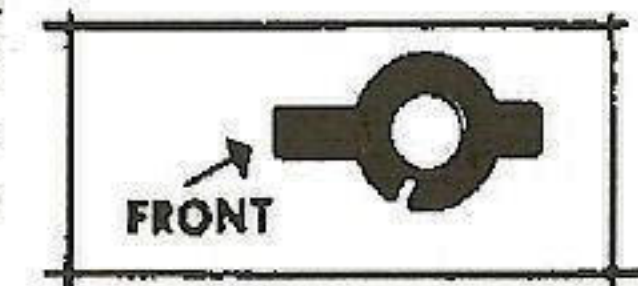

FIG. 3
6. Take apart component pieces of snuffer, i.e., gears RS-700, wheel RS-1 and clutch spring RS-150. Note the position of clutch spring on the wheel, and bear in mind when re-assembling. The longer projection on top of the clutch spring RS-150 (Fig. 3), goes toward the front of the snuffer, towards the snuffer cup. See Diagrams 1 and 2, page 7.